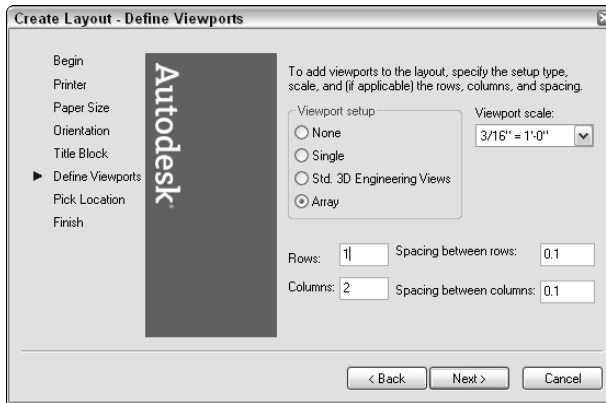

Figure 17-5: The Define Viewports screen of the Layout Wizard.
7. On the Define Viewports screen, shown in Figure 17-5, you choose from four viewport configuration options: